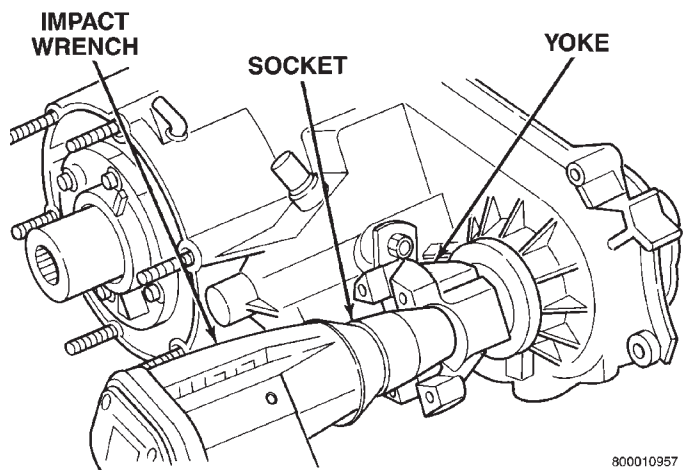

Fig. 15 Yoke Nut Removal
- (1) Remove transfer case indicator switch.
- (2) Remove front yoke nut as follows:
- (b) Then remove nut with socket and impact wrench (Fig. 15).
- (3) Remove yoke. If yoke is difficult to remove by hand, remove it with bearing splitter, or with stan-